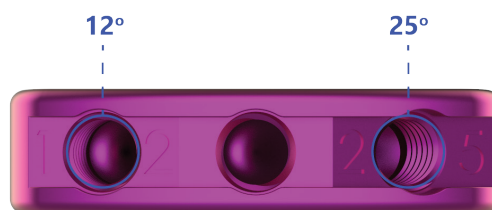

Figure 5b
- If anatomy necessitates an oblique implant, each trial can be inserted in a 12° oblique offset and/or 25° oblique offset (Figure 5b).